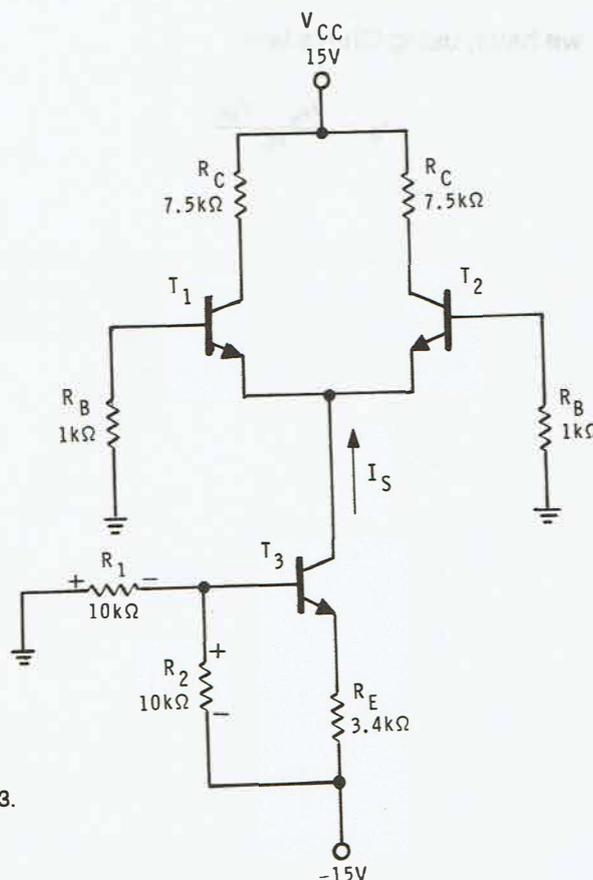

Figure 6-8
For the circuit shown in Figure 6-8 calculate the values of:
- (c) The base voltage of T_3 equals the voltage across R_1 . In Figure 6-8, note that the base voltage is negative with respect to ground. Thus: